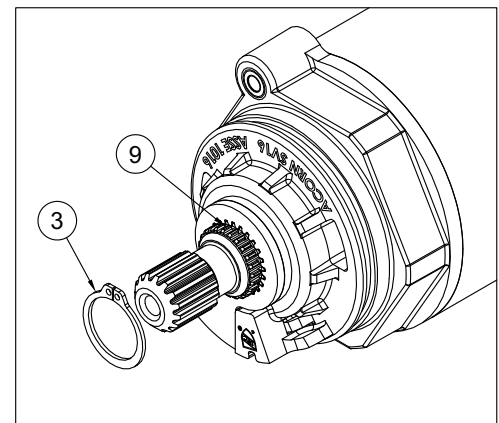

FIGURE 10
21. With valve in the "ON" position and water running install the **retaining ring 3** with snap ring pliers. Confirm snap ring is inserted properly on groove of stem. (When water is running the external **stem 9** is pushed outward increasing the exposure of the snap ring groove.) See **Figure 10**.